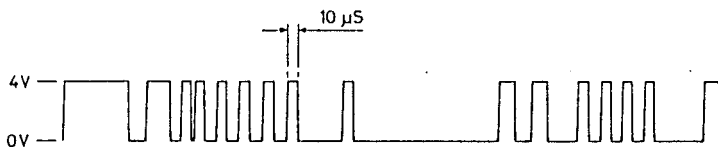

Fig. 8. Typical. Data waveform
7.2.3 Repeat this check for the Data lines ensuring the Data waveforms are as in Fig. 8. Traffic can be put onto the network using the following program running on the user station connected to the network: